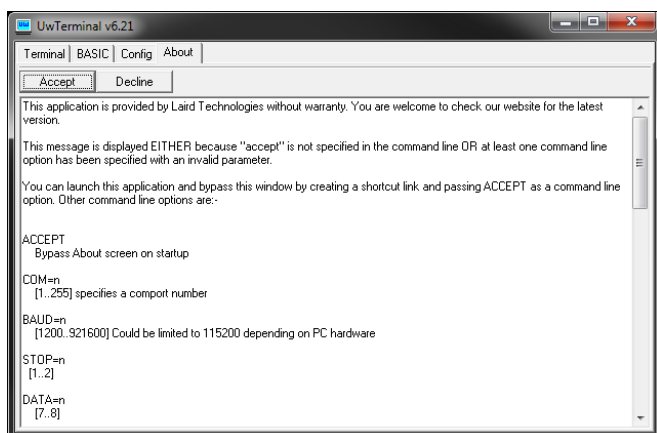

Figure 3: UWTerminal opening screen
2. Start the UWTerminal application on your PC to access the opening screen (Figure 3).